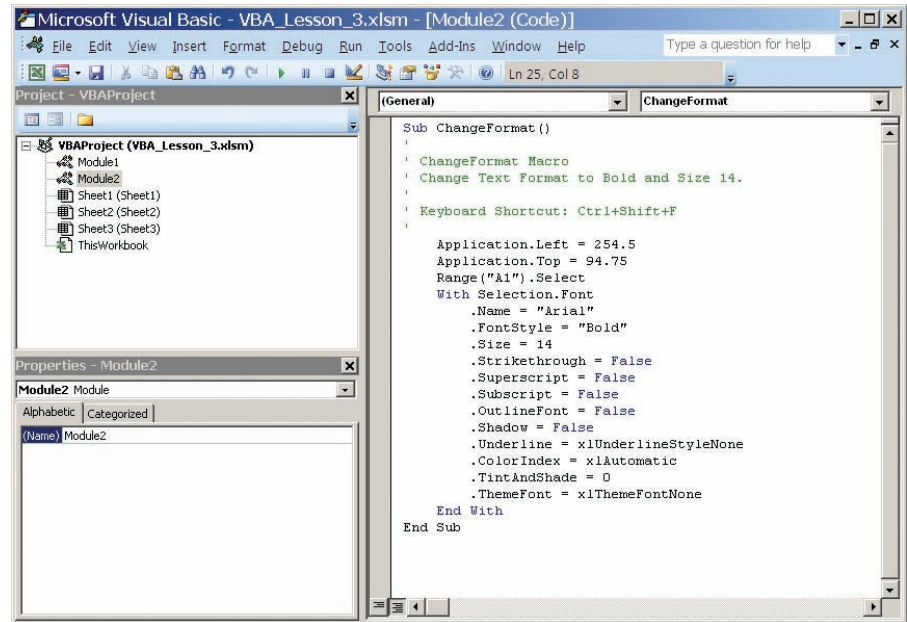

FIGURE 14.55
5. Now you can view the code that was created by going to the VBA editor and double-clicking on Module2. You should see the code shown in Figure 14.55.